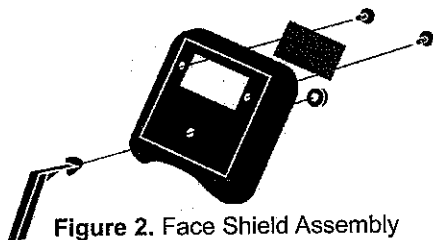

Figure 2. Face Shield Assembly
- From inside of shield, screw the shield handle nut tightly onto peg threads. See Figure 2 for face shield assembly.